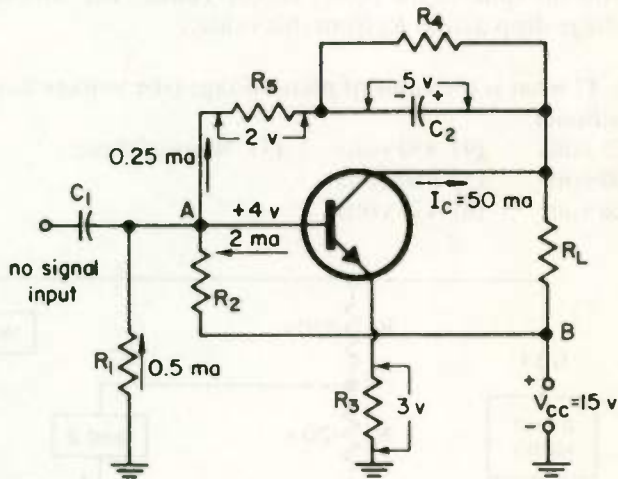

Fig. 49
33. Figure 49 shows a transistor amplifier circuit. What is the voltage drop across R_L ? The +4 volts shown on base is voltage measured to ground.
- (1) 3 volts (3) 8 volts (5) 15 volts
(2) 4 volts (4) 11 volts
34. What is the voltage drop between the base and emitter terminals in Fig. 49?
(1) 1 volt (2) 3 volts (3) 4 volts (4) 11 volts
35. What is the voltage drop across R_2 in Fig. 49?
(1) 1 volt (3) 4 volts (5) 15 volts
(2) 3 volts (4) 11 volts
36. How much current flows through emitter resistor R_3 in Fig. 49?
(1) 2.5 ma (2) 48 ma (3) 52 ma (4) 52.5 ma
37. How much current flows through base resistor R_2 in Fig. 49?
(1) 0.5 ma (3) 2 ma (5) 2.25 ma
(2) 1.5 ma (4) 2.5 ma (6) 52.5 ma
38. How much current enters the positive terminal of voltage source V_{CC} in Fig. 49?